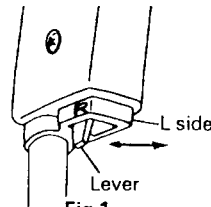

Fig. 1
6. Confirm the direction of bit rotation: (Fig. 1)